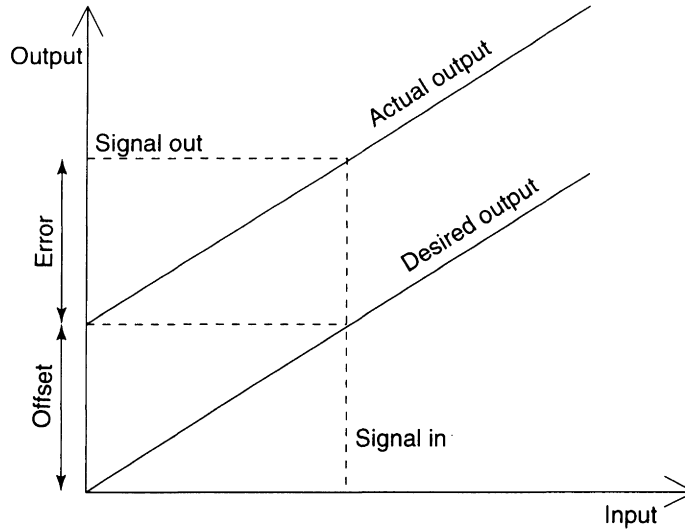

Figure 7.26 Zero offset
**Malfunctioning of any element** will cause errors in the measured value of the system. An element could malfunction because it is not properly maintained. It could also require adjusting. The **zero offset** is used to adjust the element so that when the input is zero the output is also zero. If this is not done a constant error, called a zero-offset error, exists over the whole range of the element (Figure 7.26).